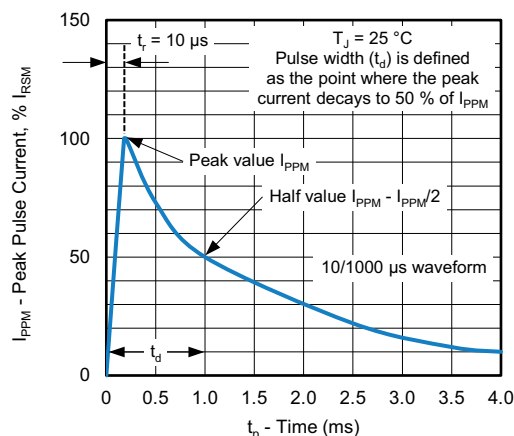
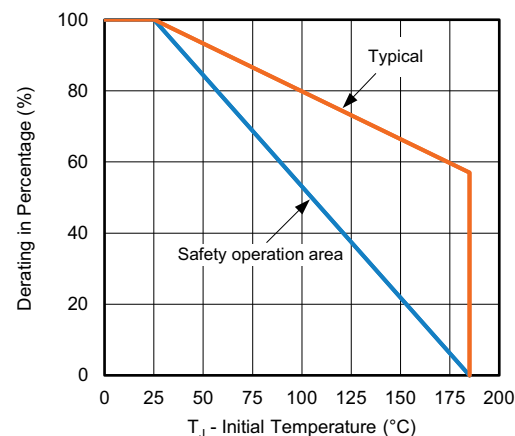

Fig. 3 - Pulse Waveform
Fig. 2 - Pulse Power or Current vs. Initial Junction Temperature
(1) Non-repetitive current pulse, per fig. 3 and derated above $T_A = 25\text{ °C}$ per fig. 2
(2) Power dissipation mounted on infinite heat sink
(3) Power dissipation mounted on minimum recommended pad layout
(2) Surge current waveform per fig. 3 and derated per fig. 2
(3) To calculate V_{BR} vs. junction temperature, use the following formula: V_{BR} at $T_J = V_{BR}$ at $25\text{ }^{\circ}\text{C} \times (1 + \alpha T \times (T_J - 25))$
(4) All terms and symbols are consistent with ANSI/IEEE C62.35